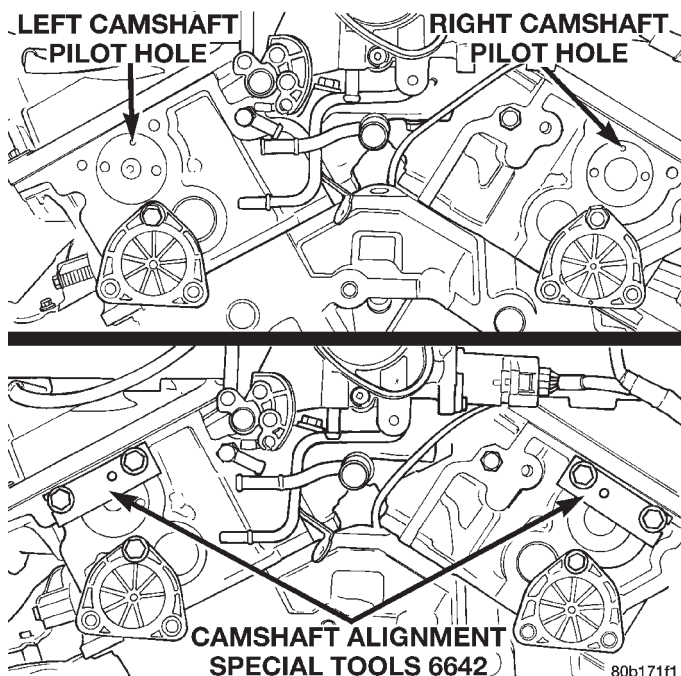

Fig. 49 Camshaft Alignment Special Tools 6642
(3) Install the camshaft alignment Special Tools 6642 to the rear of each cylinder head (Fig. 49).